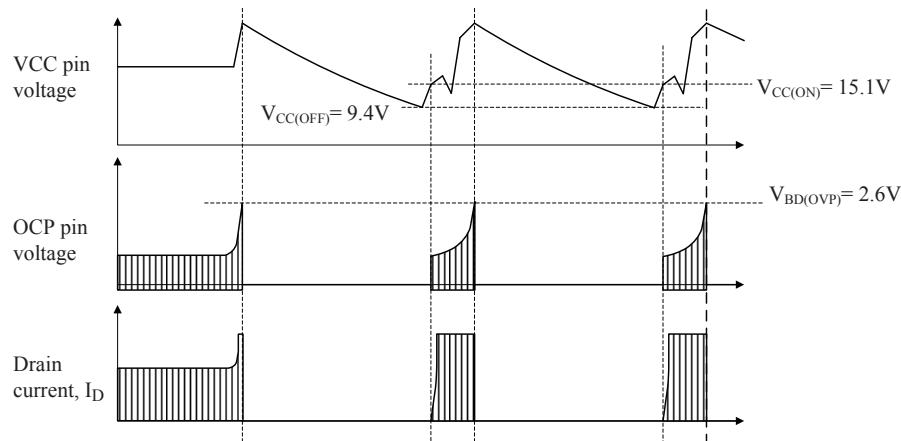

Figure 35. Waveforms when OCP pin OVP is being activated (LC551xD)
- OCP Pin Overvoltage Protection. Figure 35 shows the OCP pin OVP function. When the OCP pin voltage with reference to the S/GND pin reaches $V_{OCP(OVP)} = 2.6$ V or more, OVP is activated. During this function, the bias assist function is disabled, and thus the IC enters intermittent operation as described in the VCC pin OVP section, above. This can be used as protection in the event that the quasi-resonant signal setup is mistaken or excess load current happens in the use of a poor coupling transformer between the primary and secondary winding.